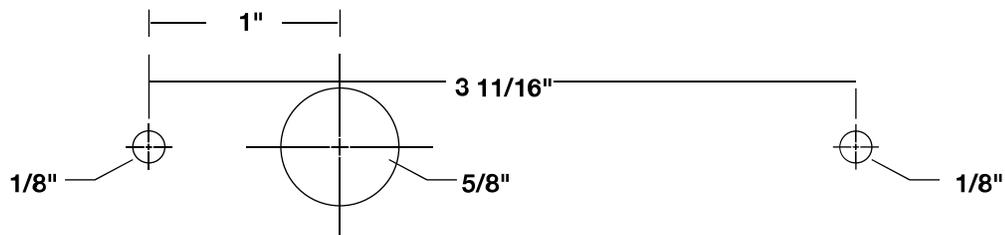

Fig. 16
1. Select an area on the trailer where the permanent trailer mount (B) will be high enough for your desired viewing angle and not obstruct doors or hatches, or prevent any function of your trailer equipment or its safety functions, preferably near the rear clearance/parking lights on the top of the trailer for optimal positioning.
3. Use the provided drilling template (Fig. 16) to mark the installation holes accurately on the chosen location. Note the hole pattern orientation (Fig. 4).
5. If your installation location requires, secure the grommet (E) to the drilled trailer hole to prevent any water intrusion, enhancing the longevity and reliability of the installation.
For hole pattern orientation reference only. The 5/8" drilled mount hole shown here in Figure 4 and the slotted hole in the permanent trailer mount (Fig. 5) are intended to be on opposite sides of one another, allowing wires to be tucked in the channel behind the mount. The drilling template for the permanent trailer mount is Figure 16 in this installation guide.